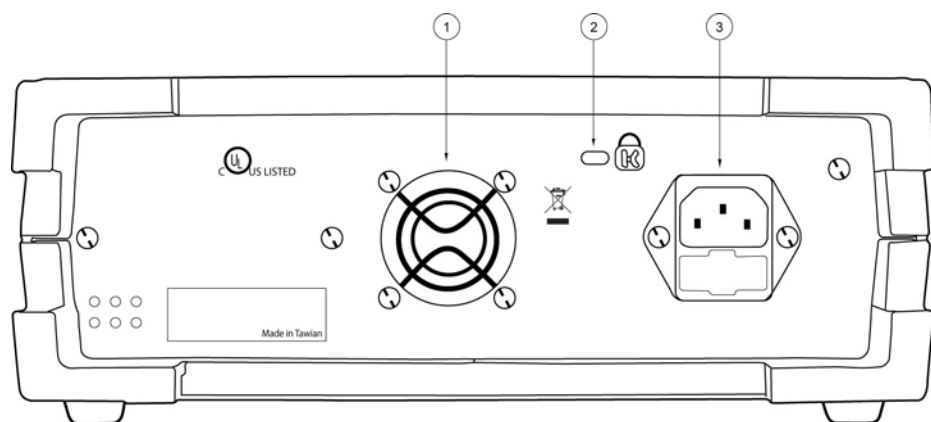

Figure 3 - Rear Panel
4.2 REAR PANEL (Refer to Figure 3)